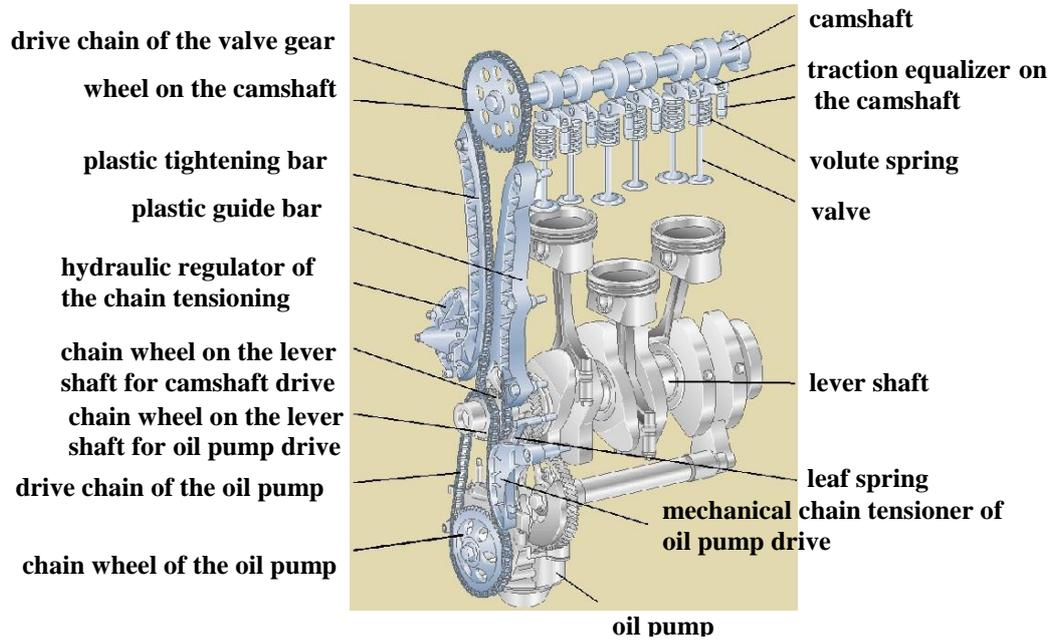
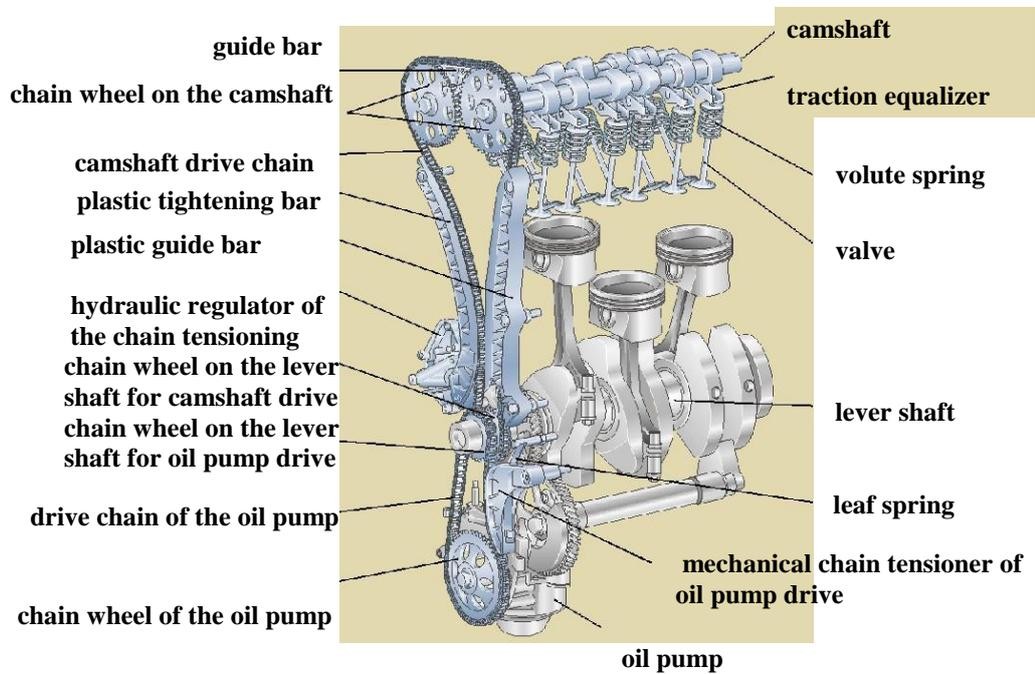

Fig. 12. Skoda's cam drive and oil pump drive of the 2-valve engine
Fig. 13. Skoda's cam drive and oil pump drive of the 4-valve engine
There are engines with 2 (**Fig. 12**), 4 (**Fig. 13**) and 8 valves.
V. Translate the words and word combinations to describe Skoda's cam drive and oil pump drive of the 2-valve (Fig. 12) and 4-valve (Fig. 13) engine.